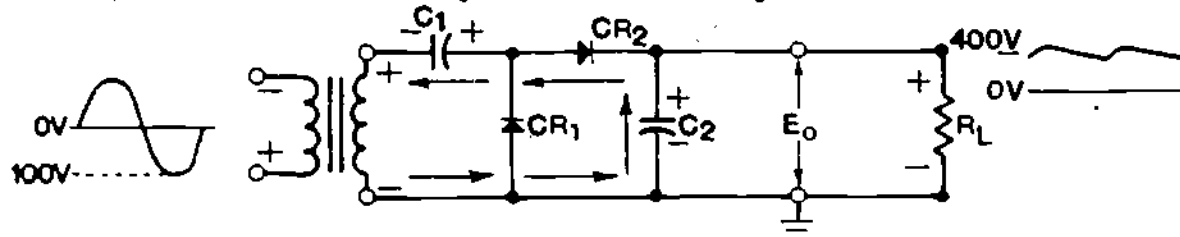

figure 9
- (10.) With CR2 forward biased and CR1 reverse biased, a series circuit exists consisting of C1, CR2, C2, and the secondary of the transformer. Current now flows as shown by the arrows in Figure 9.